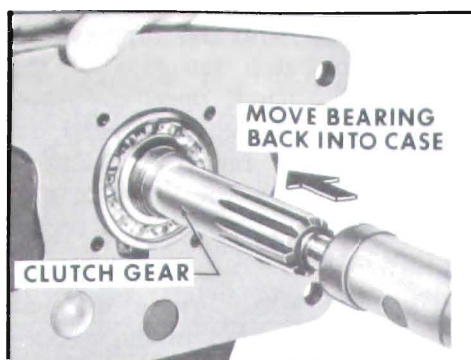

Figure 4-23—Clutch Gear Bearing Removal
9. Tap the end of the clutch gear with a soft hammer, moving the bearing and gear assembly back into the case. Remove the assembly through the rear of the case. See Figure 4-23.